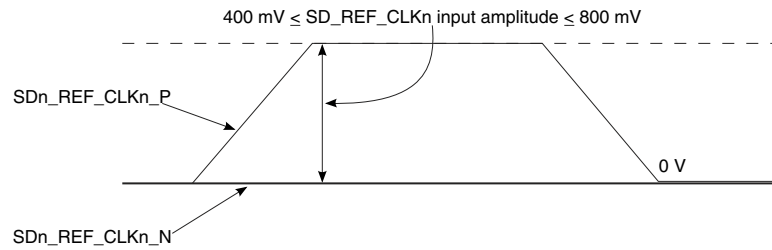

Figure 39. Single-ended reference clock input DC requirements
- The SDn_REF_CLKn_P input average voltage must be between 200 and 400 mV. Figure 39, on page 118 shows the SerDes reference clock input requirement for single-ended signaling mode.